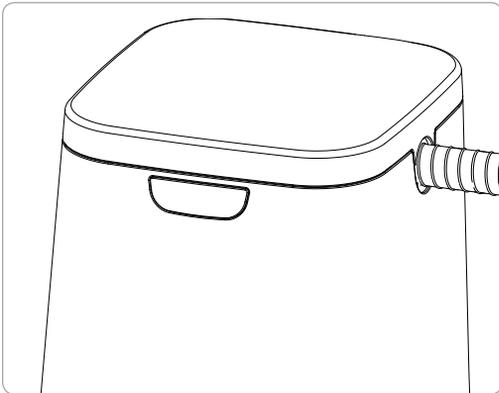

Figure 8. Closed Lid with mask inside
5. Close the Lid with the hose placed in the open slot (figure 8). The SoClean 2 will now automatically operate according to its preset time and duration.